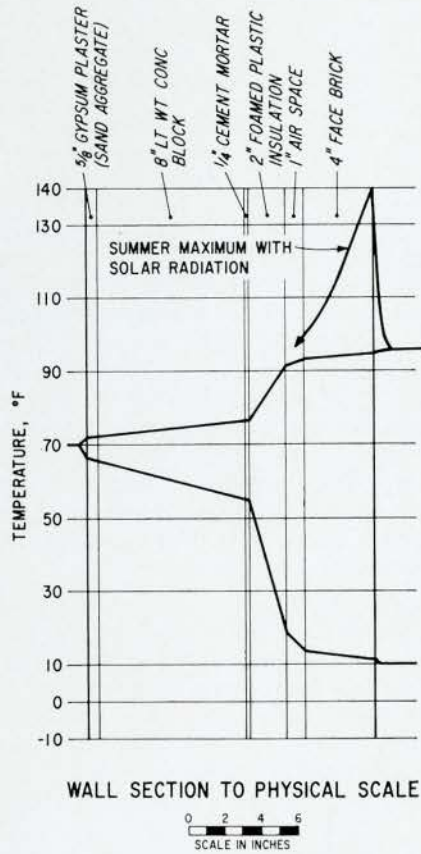

Figure 1
perature gradient through the wall shown in Fig. 1 will be calculated assuming a monthly average outside temperature of 10°F and a controlled inside temperature of 70°F. To perform the calculation arithmetically a tabular layout is used as shown in Table I. All the components of the wall, including the internal and external air films on the faces of the wall, are listed in sequence with their thermal resistances (R) listed opposite. It is normally necessary to list only resistances and temperatures. Conductivities and conductances have been shown in this example to further clarify some of the text.
The total temperature drop through the wall in this case is 60°F and can be distributed among the individual components in proportion to their resistances. The interface temperatures can then be determined and recorded in the last column and the temperature gradient plotted as shown on Fig. 1. Should the total heat loss through the wall be required, the over-all coefficient of heat transmission (U) is given by the reciprocal of the total resistance.